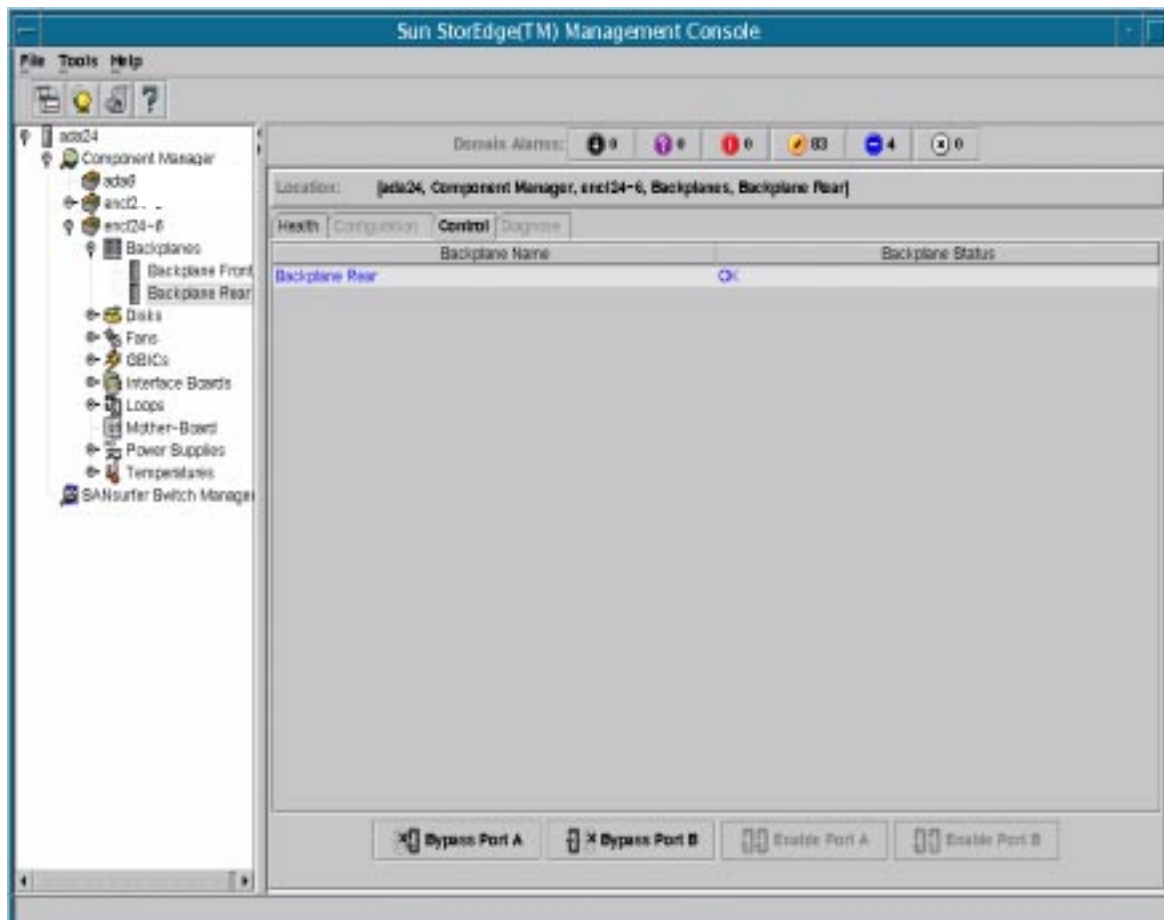

FIGURE 5-2 Sun StorEdge A5x00 Backplane Control Window
3. Select the Control Tab (see FIGURE 5-2).